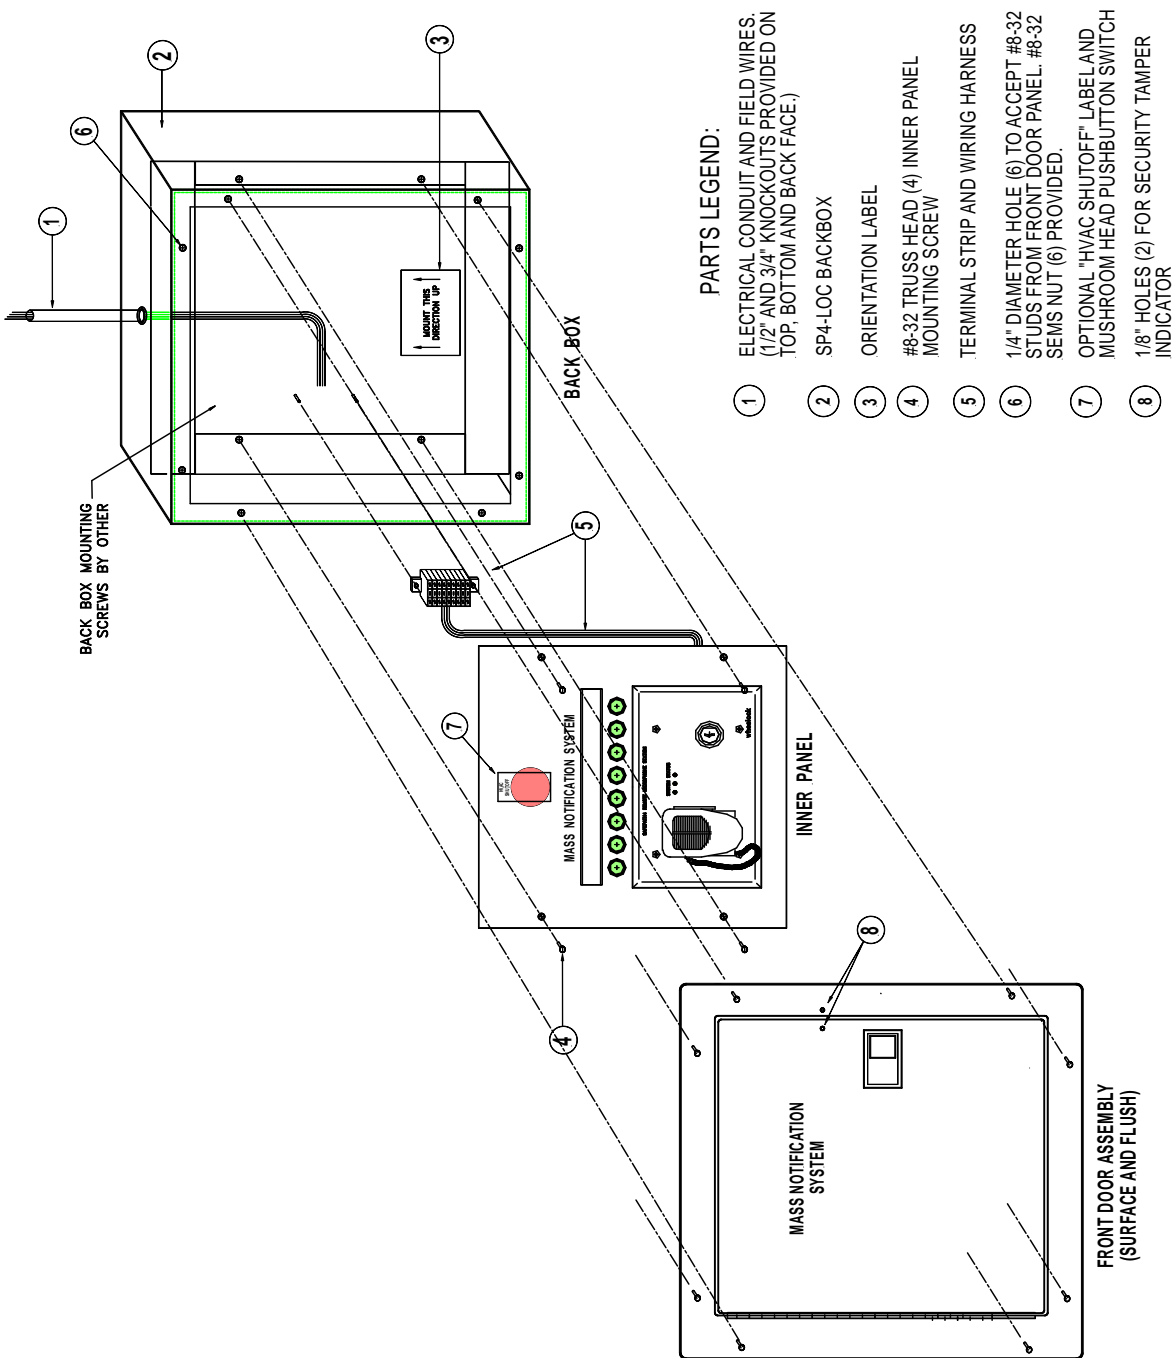

Figure 11. Exploded View of the Sp4-LOC
11. Mount the FRONT DOOR to the backbox using the eight washers and #8-32 nuts in the locations shown in Figure 11.